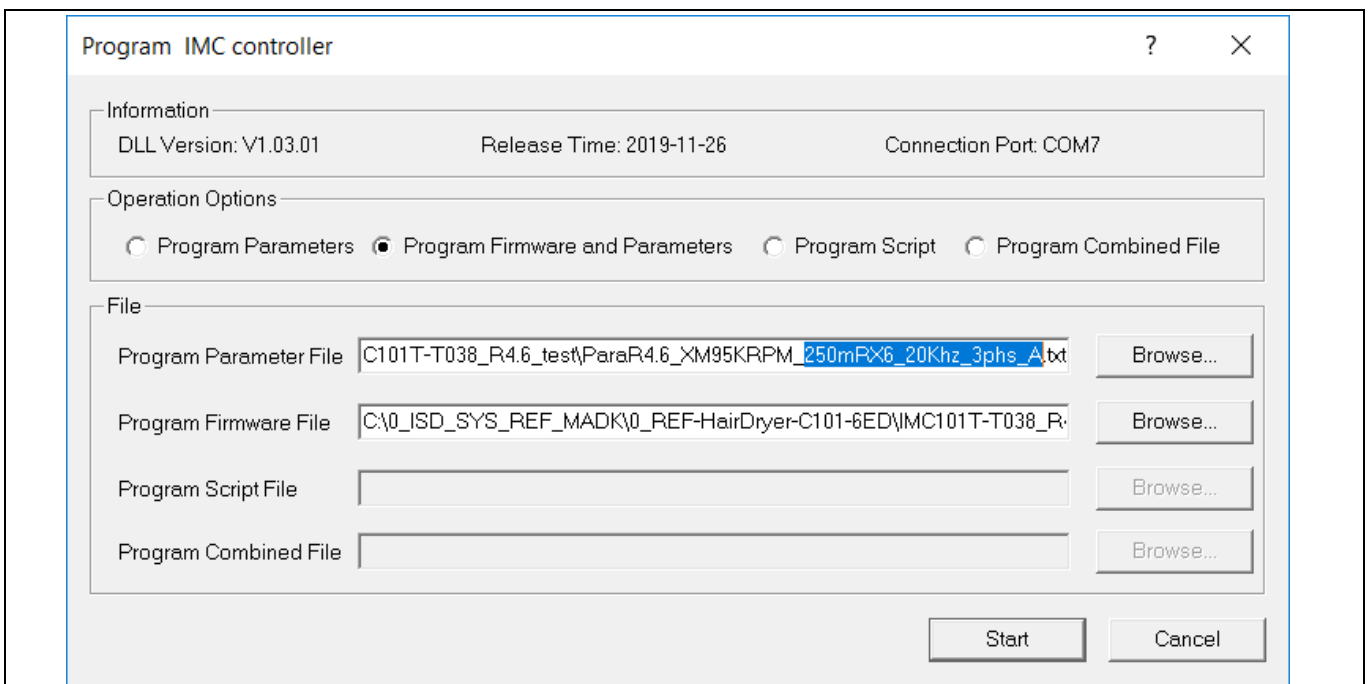

Figure 8 MCEDesigner Program message
- 9. In case of blank IC: Use the following steps to program the firmware and the parameters file into the internal Flash memory of iMOTION™ Control IC: Click on system page, click “Tools” > “Programmer” and select “Program Firmware and Parameters,” shown as Figure 8 below. The encrypted firmware is available in “IMC101T MCE Software Package,” regarding the parameters file, browse and select the .txt file in step 3.